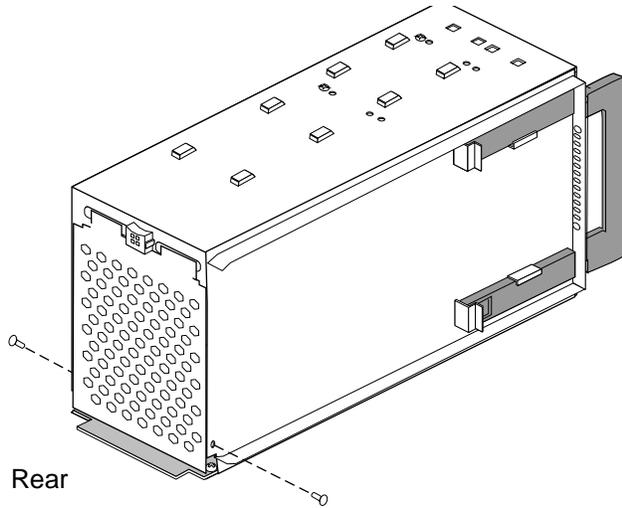

Figure 2-12 Replacing the Rear Access Plate on the Peripheral Carrier
6. Replace the access plate. See Figure 2-12.